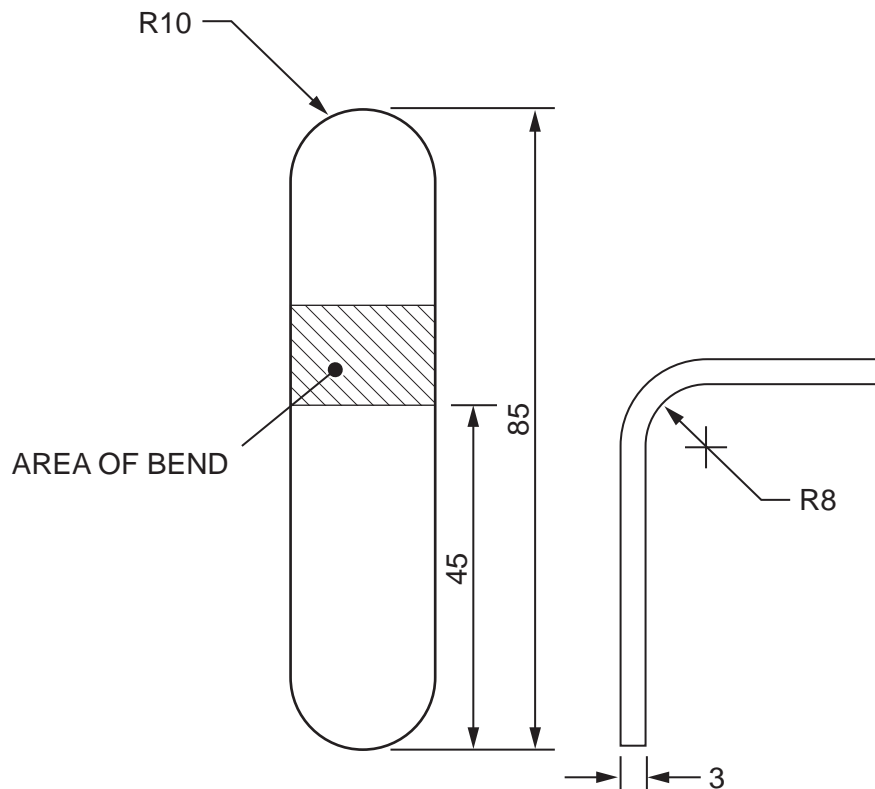

Fig. 3
- 5 Fig. 3 shows a bracket made from BDMS.
- (b) (i) State why a folding bar would be inappropriate to form the R8 in Fig. 3. [2]